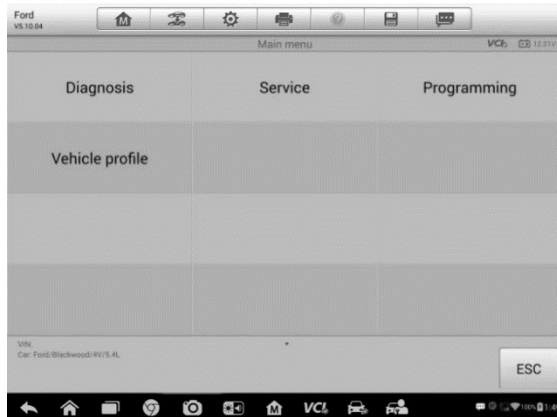

Figure 4-2 *Sample Vehicle Diagnostics Screen*
5. Tap **Done**. The vehicle will be identified in a few seconds, and once the matching is successful, the system will guide you to the Vehicle Diagnostics screen directly. (*Figure 4-2*)
The Vehicle Diagnostics screen (*Figure 4-2*) has 2 main options: